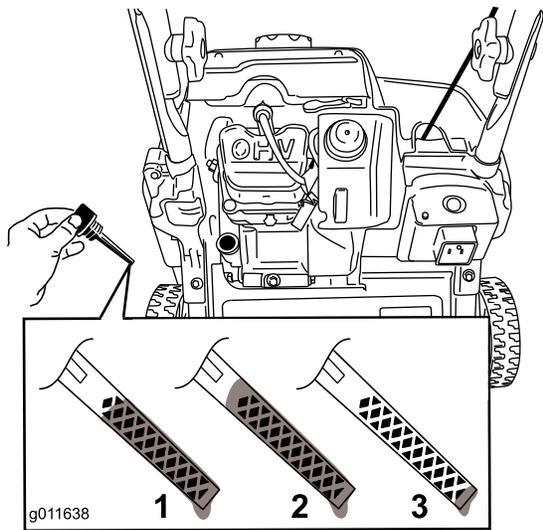

Figure 28
**Note:** To determine the proper oil level on the dipstick, refer to Figure 28.